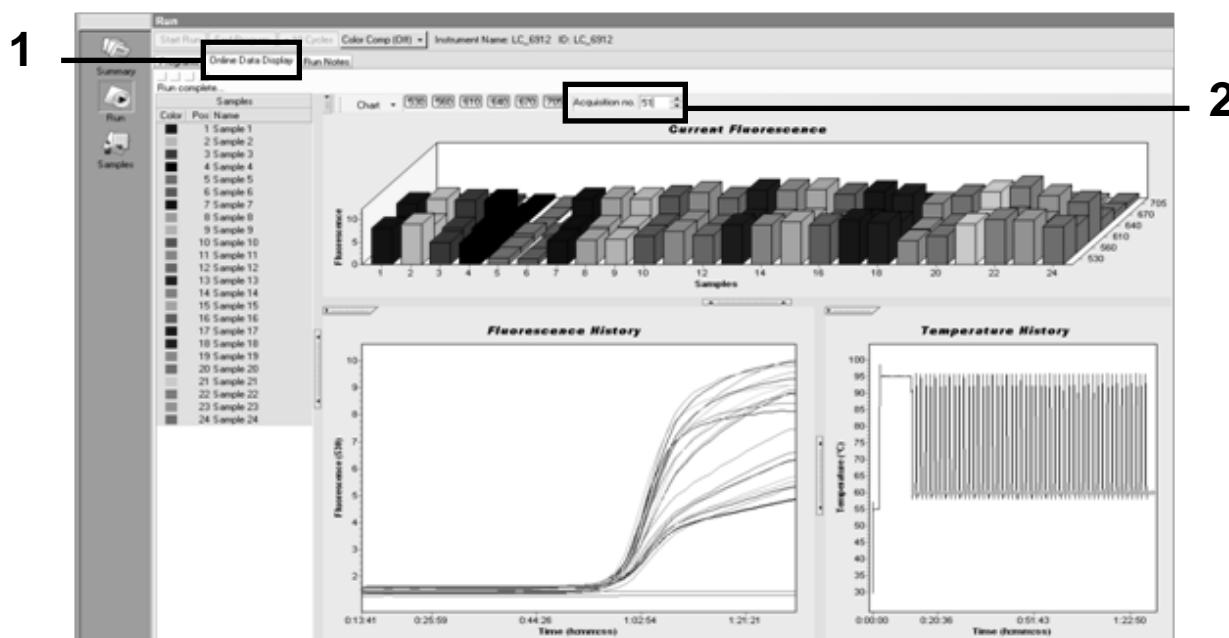

Figure 29. Results and history in Online Data Display.
- At the end of the amplification run, click the tab for “Online Data Display” (Figure 29). Open the display menu on the top left of the “Current Fluorescence” window, then write 51 in “Acquisition no.”.